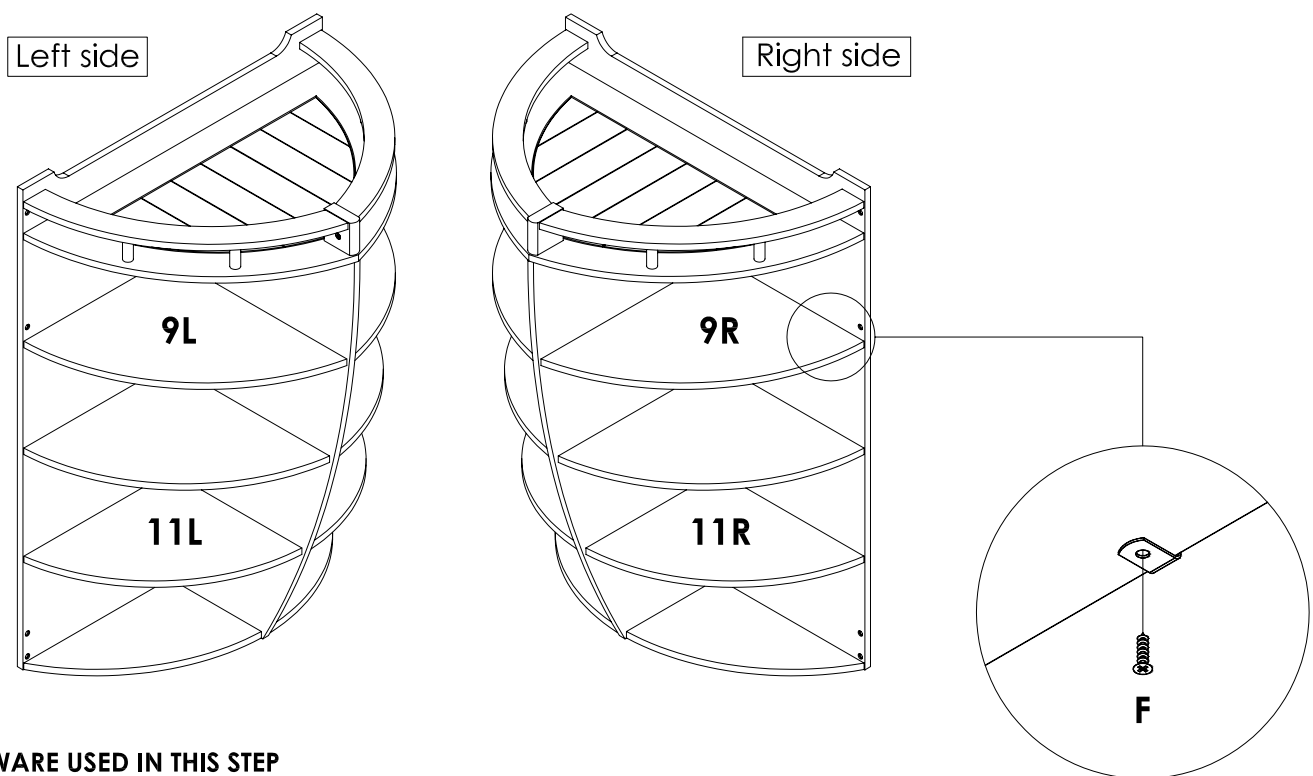

Figure 12
1. Attach and secure **Top Shelves & 3rd Shelves** onto **Shelf Supports (K)** by using **CSK C/B screws (F)** as shown on **Figure 12**, tighten it up by using a Crosshead Screw Driver.